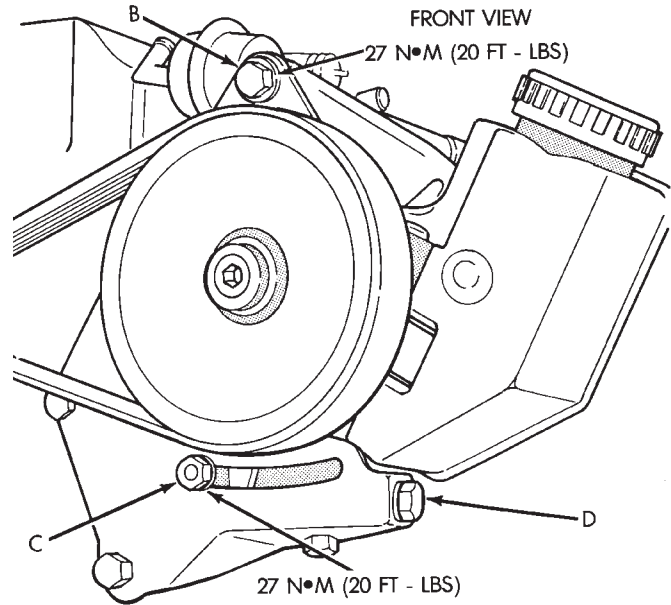

Fig. 6 P.S. Pump Front Mounting Bolt/Locknut—Typical
- (b) Loosen upper pump pivot bolt B and lower lock nut C (Figs. 6 or 7).
- (8) Remove locknut C and belt adjustment bolt D (Figs. 6 or 7).
- (9) Remove bolt B (Fig. 6). Position power steering pump to the side. Hold pump in position with wire. Do not disconnect hydraulic lines from pump.
(8) Position power steering pump to mounting bracket. Install pivot bolt B (Fig. 6) finger tight. Install locknut C and adjustment bolt D (Figs. 6 or 7) finger tight.
(9) Install two adjustment bolts A (Fig. 6) finger tight.
(10) Install idler pulley.
(14) Tighten pivot bolt B (Fig. 6) to 27 N·m (20 ft. lbs.) torque.
(15) Tighten locknut C (Fig. 6) to 27 N·m (20 ft. lbs.) torque.